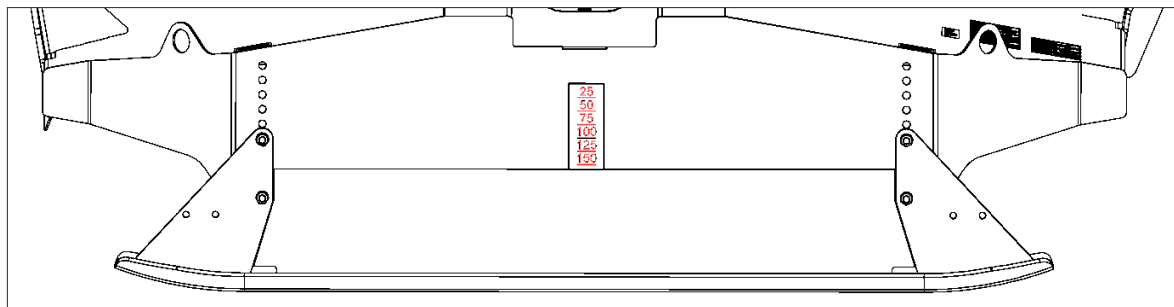

Figure 6.2
- 6.4.2.3 Reposition the skid to the new desired position. Use the cutting height decals on the side of the machine. See Figure 6.2 as a guide.